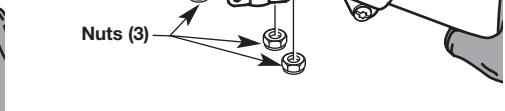

Fig. 9
- Attach the blade guard to the trimmer head with the three guard bolts and nuts using a 7/16 inch closed-end or socket wrench (Fig. 9).
- Loosen and remove the three guard bolts and nuts using a 7/16 inch closed-end or socket wrench (Fig. 9). Store with brush cutter blade for future use.